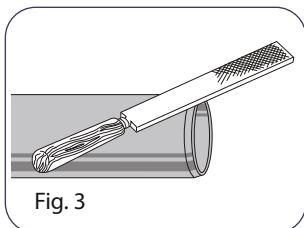

Fig. 3
b) the trimmed edge of the pipe should be chamfered at an angle of 15° by a special tool for chamfering (Fig. 3 & 4)